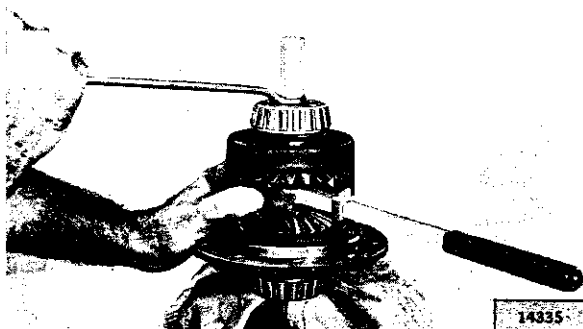

FIG. N-59—STARTING PINION MATE GEARS INTO CASE
j. Position both pinion mate gears exactly as shown. Be sure the holes of the gears are lined up with each other. Hold gears in place by hand. See Fig. N-59.